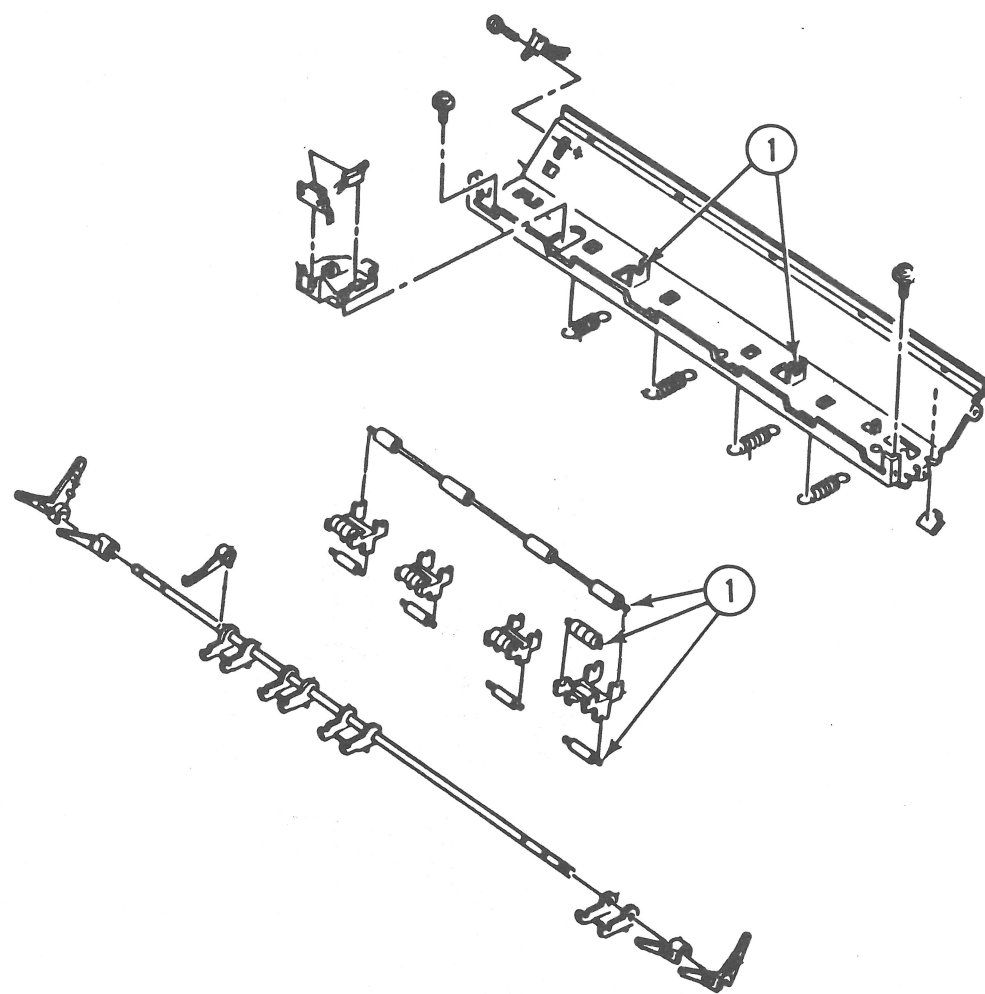

FIGURE 4
2. Clean the parts identified (Figure 4, #1) by wiping off any old oil and dirt with a lint-free cloth.
3. Lubricate each lubrication point identified (Figure 4, #1) with one drop of Floil G-488.